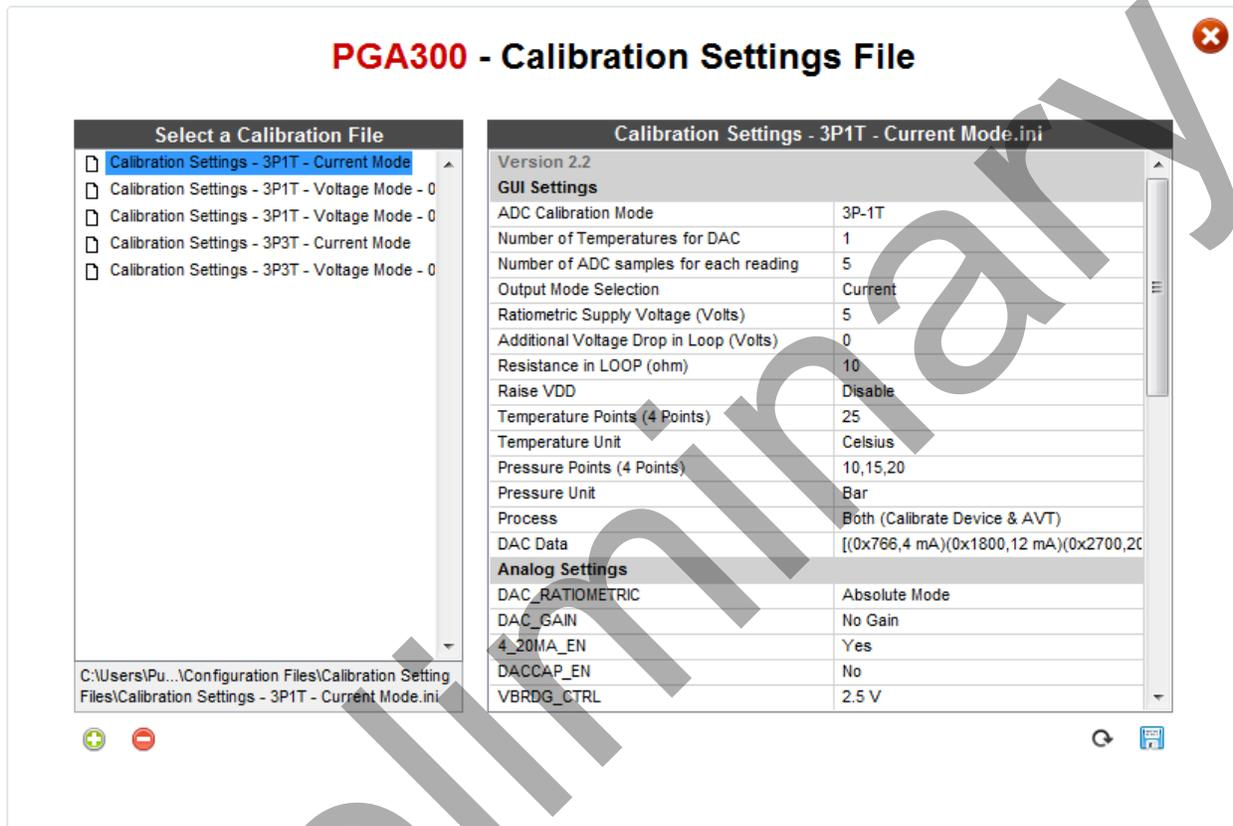

Fig 51: Calibration Settings File Editor
GUI has internal editor to edit the calibration settings file as shown in *Fig 51: Calibration Settings File Editor*. It is recommended for the user to use this editor since GUI might not respond properly for any syntax errors in the calibration settings
1. Select the file to be loaded on the editor form the files list. For example in the above figure *Fig 51: Calibration Settings File Editor*, Calibration Settings - 3P1T – Current Mode.ini is selected form the list. The selected file name will be shown on the editor section and the full path will be shown below the selection list.